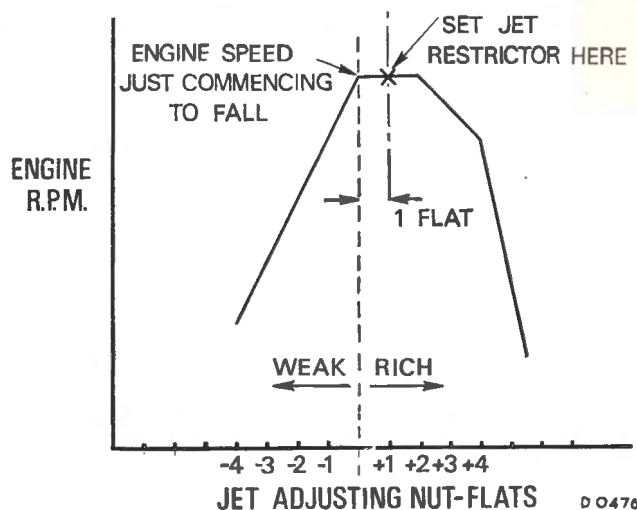

Fig. G-1
- 6 The engine speed will increase and once a certain point is reached, it will then fall. From the point of maximum engine speed (LEAN BEST IDLE) the nut should be wound down a maximum of one eighth turn (3/4 of a flat) REFER TO GRAPH Fig. G-1.